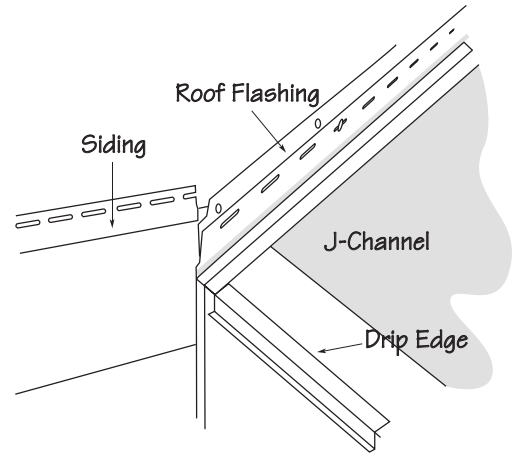

Figure 44.
- Cut the next piece of siding, making sure the vertical lap falls behind the roof flashing and roof J-channel (Fig. 44).